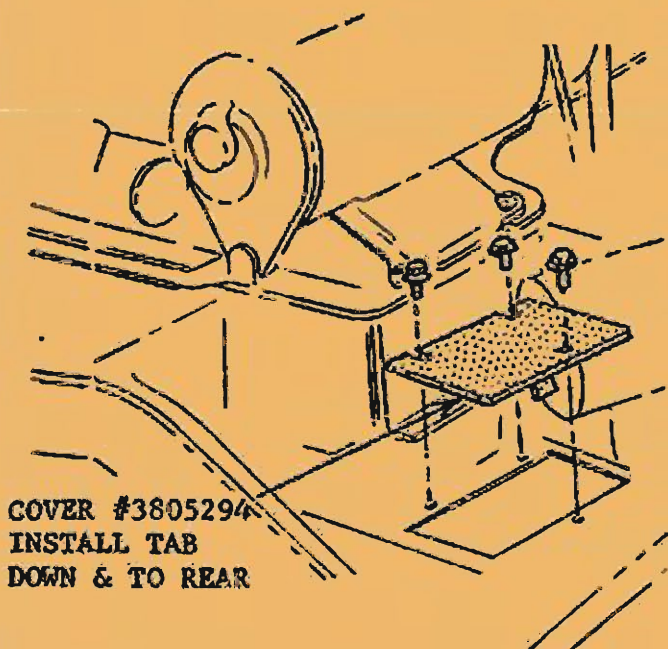

FIGURE 1 - SUMMER INSTALLATION
- A. On engines not equipped with a 60° baffle over the recirculation slots, install covers (Part #3805294) on both slots. Use 10-24 x 7/16" self tapping screws, pointing cover tabs down and to the rear as shown in Figure 1. Tabs are designed to hold damper doors open approximately 1 1/4 inches.